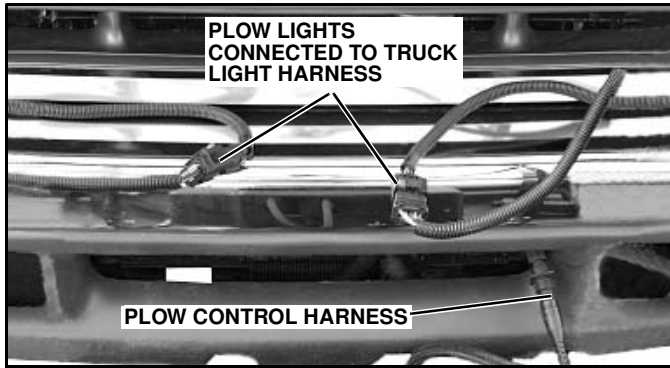

Figure 1-48
2. Disconnect the plow lights from the truck light harness. (See Figure 1-48). Disconnect the plow control harness and replace the protective cap.